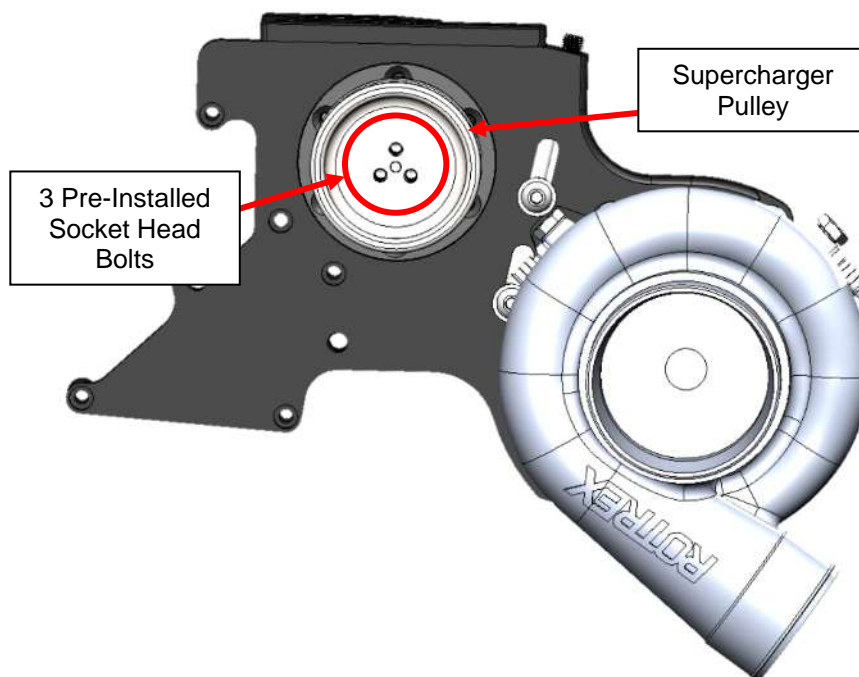

Figure 46
11. Remove the (3) three pre-installed Socket Head Bolts on the Main Bracket and install the Supercharger Pulley (#47) as shown below. **DO NOT** spin the blower. For added security, you can add a drop of Loctite to each bolt. **DO NOT** add too much as it may leak out into the Jackshaft Bearing in the Bracket. *Figure 46.*